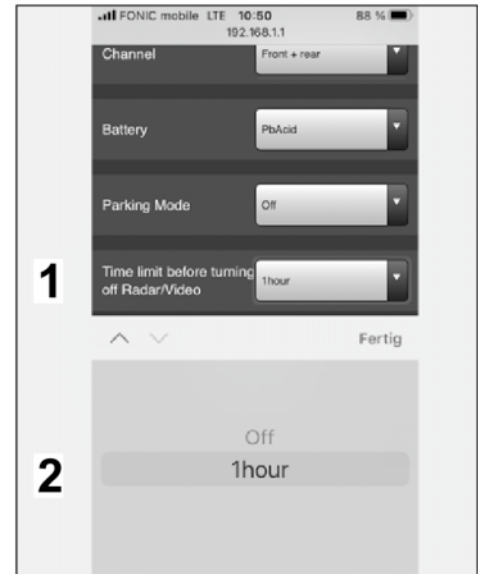

Figure 25
5.3.6 Select the time limit (⇒ *Figure 25*)